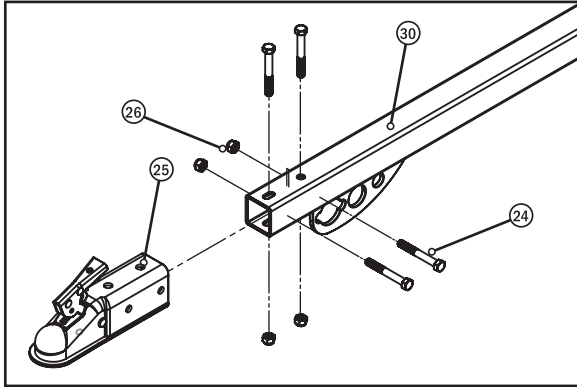

Fig. 15
Step 20: Assemble the Draw Bar. Assemble the Hitch Ball Coupler (#25) to the end of the Tow Bar (#30) using the four M12 x 90 Bolts (#24) and M12 Lock Nuts (#26) as shown (Fig. 15).